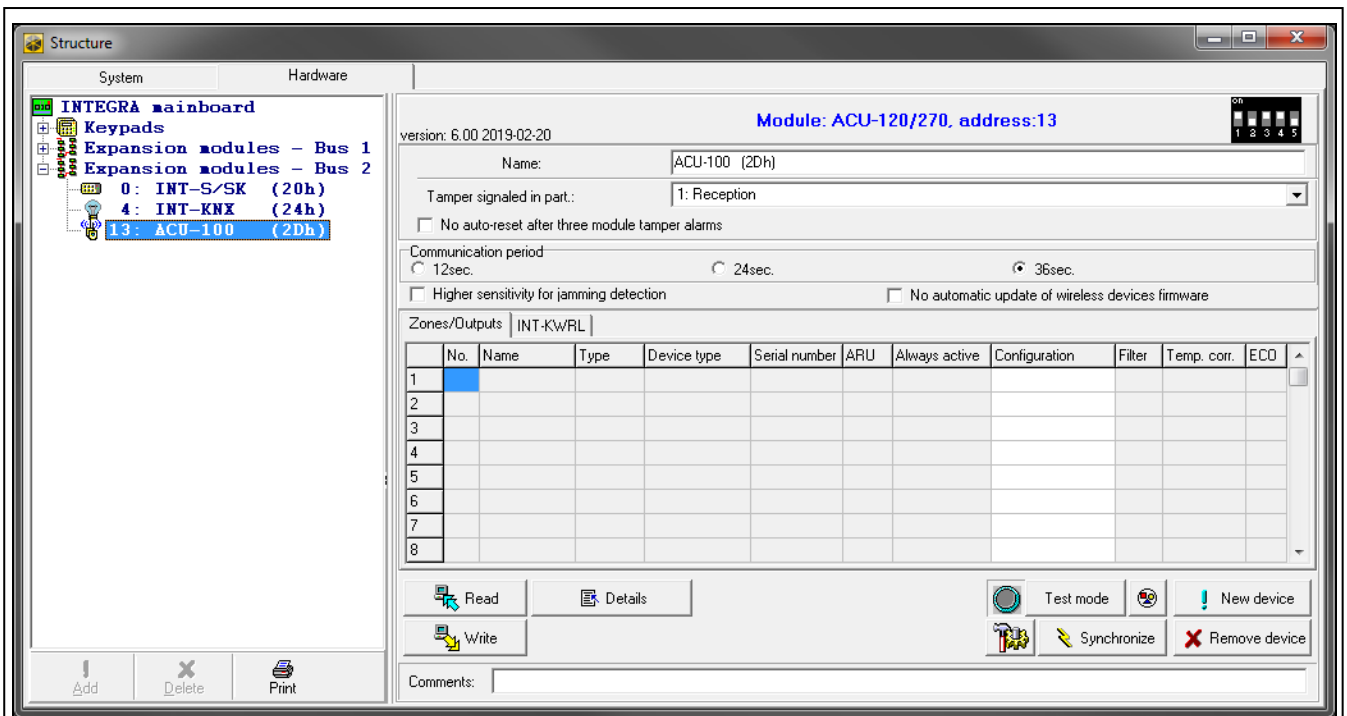

Fig. 22. DLOADX program: parameters and options of the controller connected to INTEGRA / INTEGRA Plus control panel.
- DLOADX program: “Structure” window → “Hardware” tab → “Expansion modules” branch → *[controller name]* (Fig. 22).